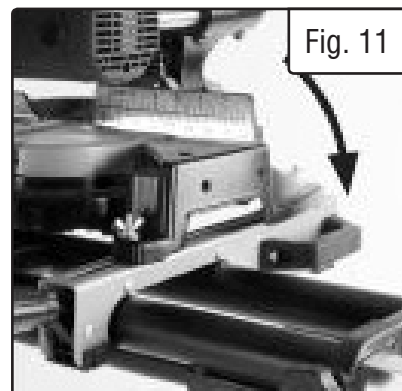

Fig. 11
7. Lock brackets into place by gently pressing down the locking handles (Fig. 11).